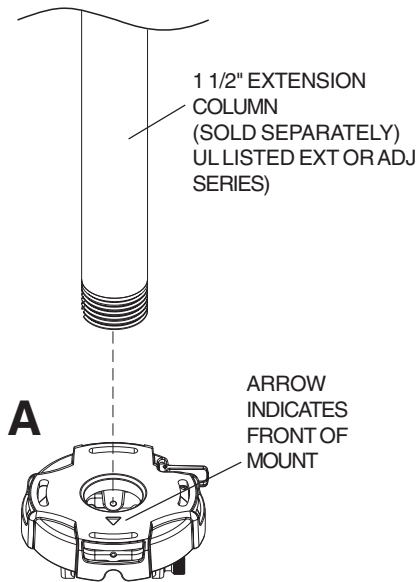

fig. 2.1
Screw projector mount assembly (A) onto extension column as shown in **figure 2.1**.